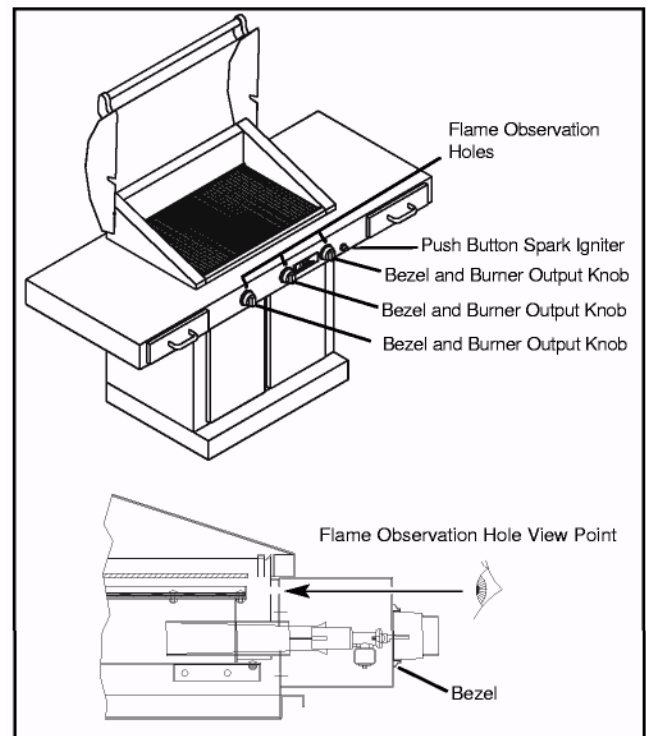

Figure 11. Grill Front Components (Sterling G-3000 FR shown)
4. Push the Spark Igniter Button while checking for flame. Flame may be visually seen by looking into the Flame Observation Holes in the front of the grill. (See Figure 11, Page 10) Also one can generally hear the burners ignite and then feel warmth rising to the cooking surface at the front and back of the Radiant Glass Panels when ignition occurs. If flame is not present and ignition does not occur in 10 seconds, turn Burner Output Knob to "OFF" and wait 5 minutes before attempting to relight the grill. After waiting 5 minutes repeat steps 3 and 4.